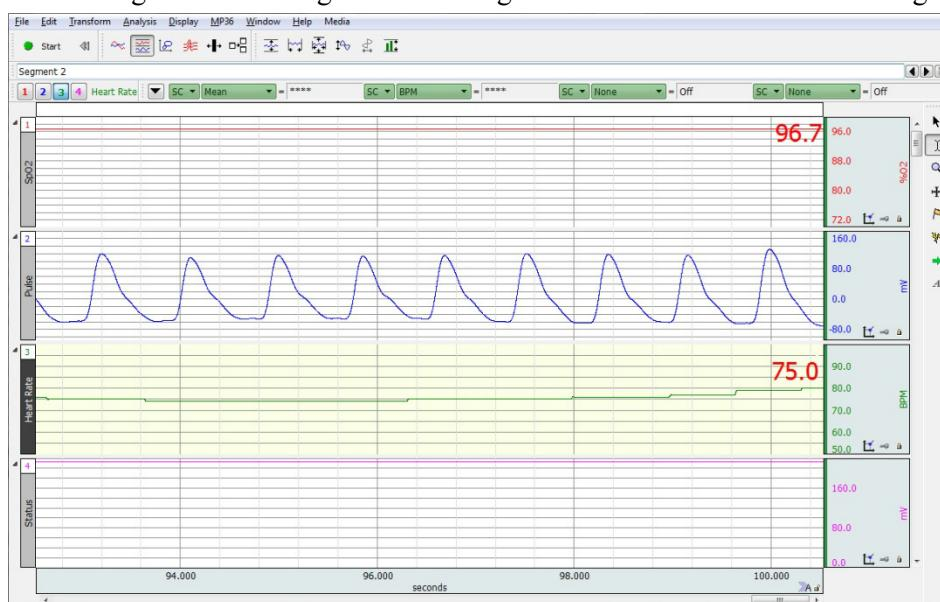

Figure 7
2. Click “**Start**” to begin the recording. The recording should resemble data shown in Figure 7.